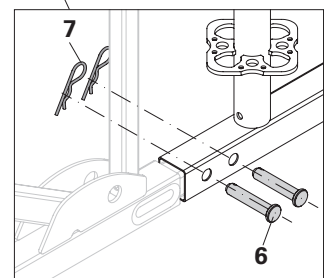

Fig. A1.03a
2. Insert Bolts (**6**) – from the outside to the inside – through the holes of the bottom chord and secure with cotter pins (**7**) – 2x. (Fig. A1.03a)